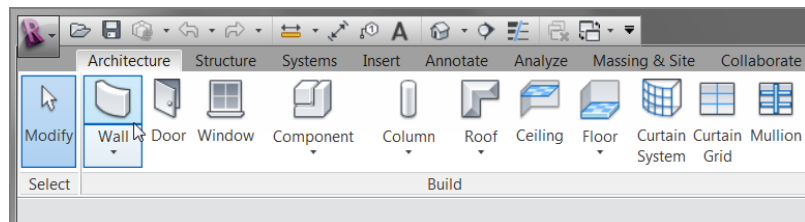

FIGURE 1.4: The Ribbon is the backbone of Revit.
1. At the top of the Revit window is the Ribbon. A series of tabs is built into the Ribbon. Each tab contains a panel. This Ribbon will be your Revit launch pad! Speaking of launch pads, click the Wall button on the Architecture tab, as shown in Figure 1.4.